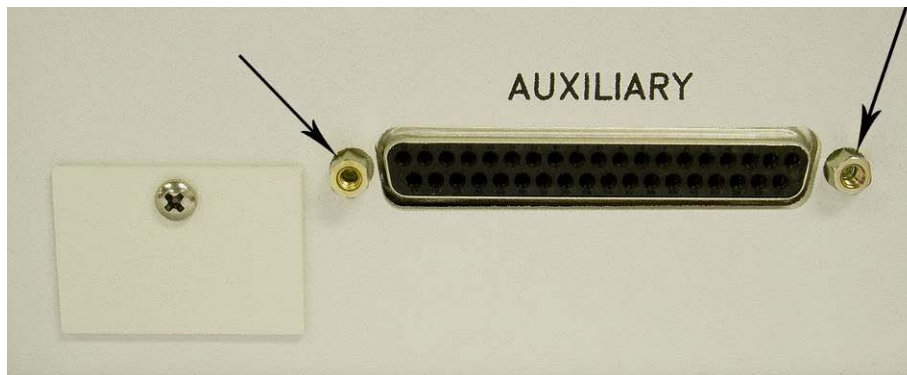

Figure 1-25 Jackscrews securing Daughter board (ASX-520).
The proper processor module (with *ASXPRESS* functionality firmware pre-loaded) and auxiliary board (daughter board) with female I/O connector are furnished with the *ASXPRESS* system, either installed in the autosampler for full systems, or included as components of the upgrade kit version. (The I/O board connector as it appears as viewed at the rear panel of the *ASX-520* autosampler is shown in Figure 1-25.) Follow the instructions in this section to install the "Rabbit" processor module and auxiliary board (daughter board) in the autosampler to be upgraded to *ASXPRESS* functionality. Auxiliary board installation instructions are provided in hard copy and on the CD provided in the *ASXPRESS* completion kit of upgrade versions.)
4. **Install Jackscrews through the autosampler case and into the 37-pin connector ears, threading and then fully tightening with a 3/16" nut driver to securely attach daughter board to the chassis (Figure 1-25).**